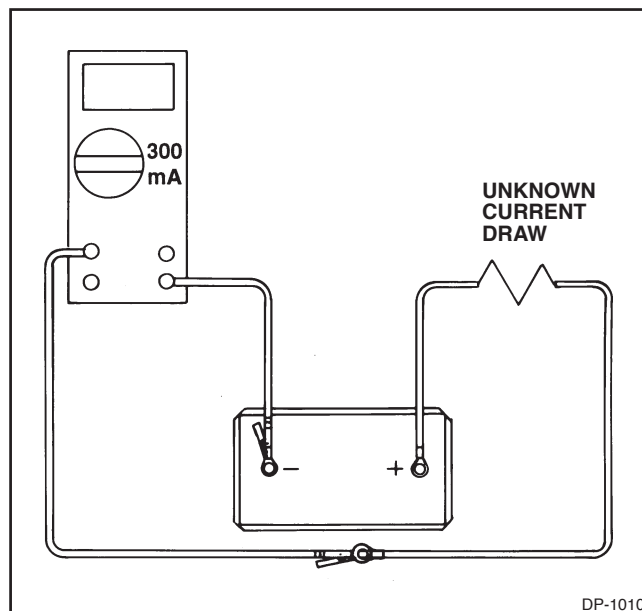

Figure 1-10. In-Line Ammeter
1-18. AMMETER SELECTION. With but few exceptions (See Figure 1-10) it is desirable to make ammeter readings without opening up the circuit and thus disturbing a circuit defect and prevent it from being discovered. Therefore the use of a clamp-on induction type ammeter is recommended for most of the measurements described in this manual. This type is easy to use, cannot be damaged by misconnection and will not damage the vehicle wiring. A clamp-on ammeter operates by measuring the magnetic flux produced by current flow through a conductor and translating that into amperes which are displayed on the meter readout.
2. Figure 1-10 shows an in-line digital ammeter used to measure an unknown current draw such as may result from a parasitic load. On the 10 amp scale the current would be too low to be measurable. However, with the meter on the 300 ma scale, the current draw in milliamps can be read.